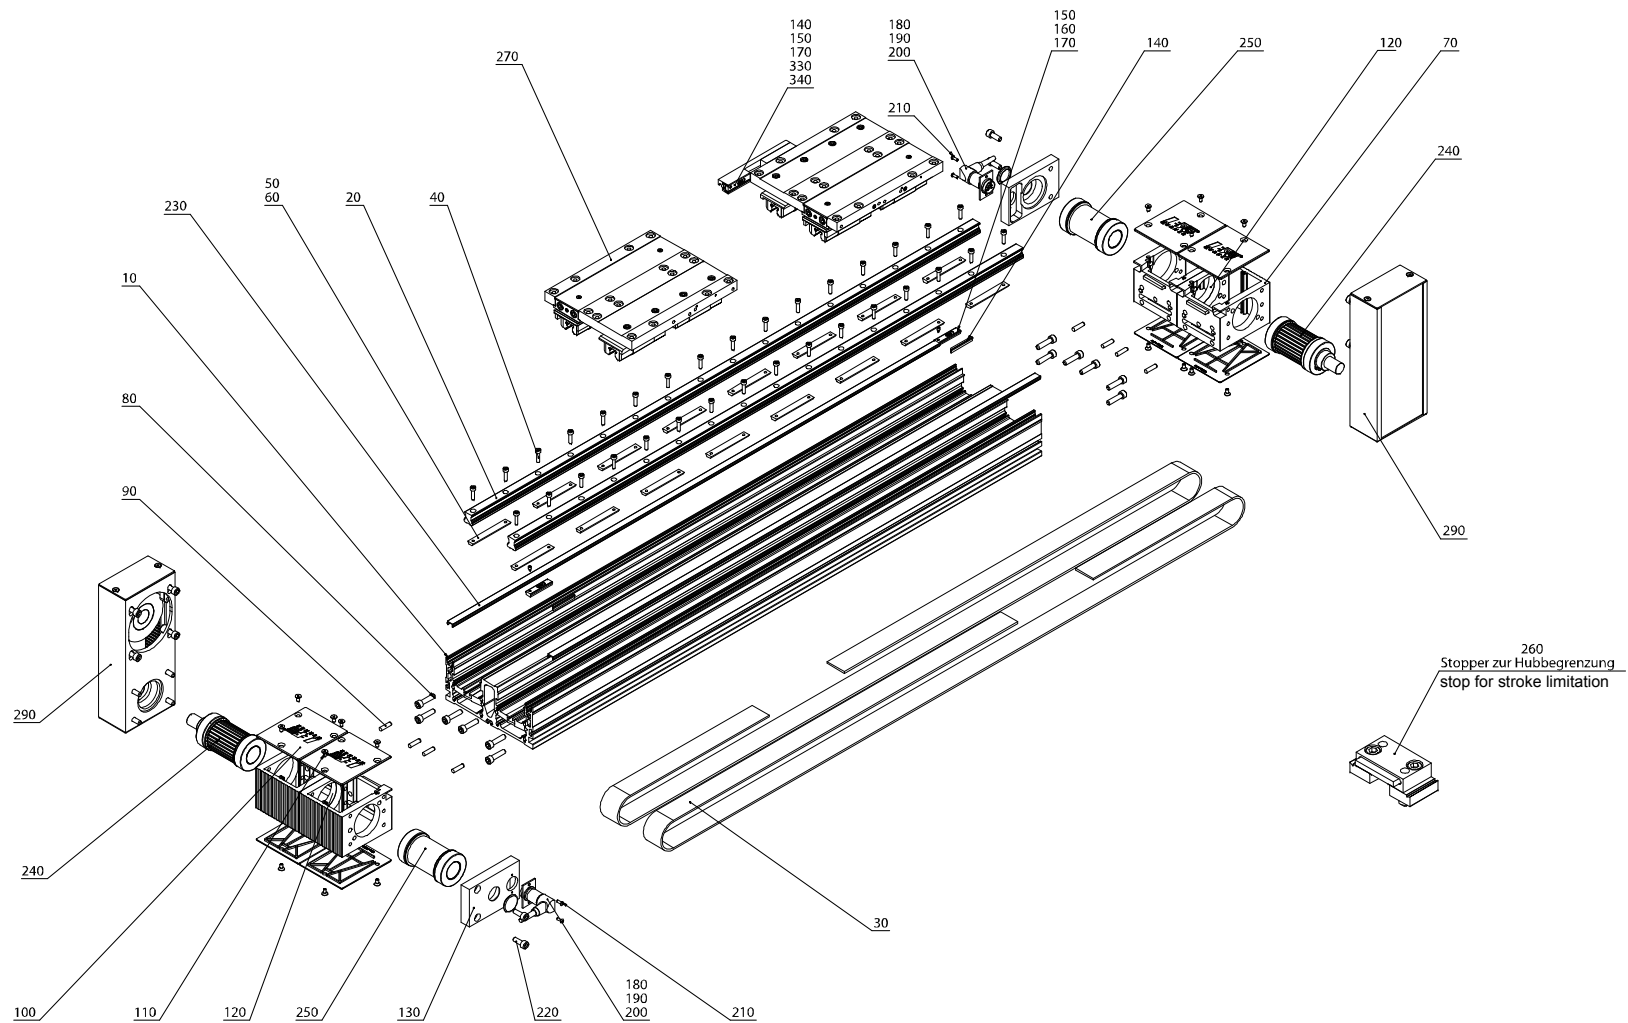

Figure 22: Linear drive unit 160/15 G with toothed belt gearbox
For explanation, see *Figure 22, page 27* and *Figure 24, page 31*.
- *Figure 22, page 27*: remove plastic covers (Pos.100).
- Insert toothed belt in the middle of toothed quadrant (Pos. 30) and pressure piece (Pos. 40). The pressure piece and the toothed quadrant can be wrapped with a thin adhesive tape. This makes it easier to insert these parts into the carriage. Tension the pressure piece with screws M6 x 35 (pos.100) on "block".
- Re-install plastic covers (pos.100, *Figure 22, page 27*).
Subassembly 1000588 (drawing see *Figure 22, page 27*)